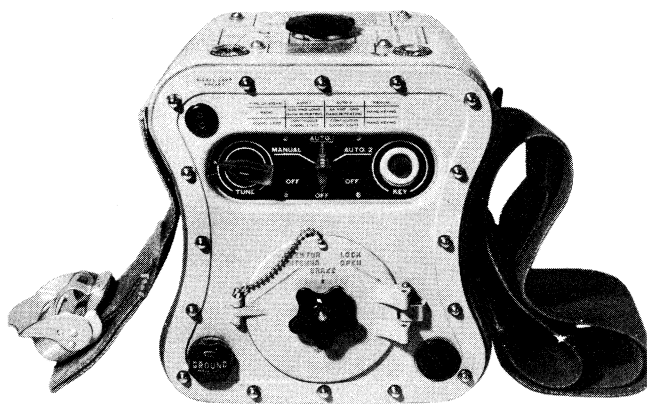

Figure 2—Radio Transmitter BC-778-E, Front View
a. RADIO TRANSMITTER—The transmitter is self-contained in a cast shell and is air tight and water-proof. (See fig. 2.) The shell is molded to the contour of the operator's legs, between which it is held for operation. The operating controls, antenna TUNE, RADIO-LIGHT selector switch, and the manual KEY